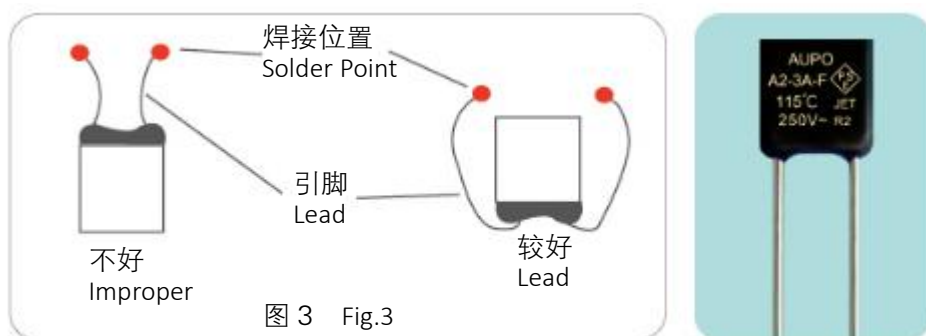

图3 Fig.3
- 尽可能利用长一些的引脚，长一些的引脚允许较长的焊接时间及减少过热的可能性（见图3）为如何在较小的位置保留长一些的引脚例子。在引脚较短的情况下，在焊接时要用尖嘴钳或其他工具夹在引脚上焊点和保险丝体之间位置上以散热，避免焊接量传入温度保险丝内部。同时焊接温度应控制不要过高，焊接时间尽可能短。
- Using the lead wires as long as possible' when soldering, longer leads permit a longer soldering time and reduce the possibility of overheating. Fig.3 is an example of how to keep longer lead wires when a thermal cutoff is installed in a small space. It is recommend that using a heat sink between the soldering point and sealant to minimized the heat transmission to thermal cutoff. Avoid the soldering temperature is too high and keep the soldering time as short as possible.